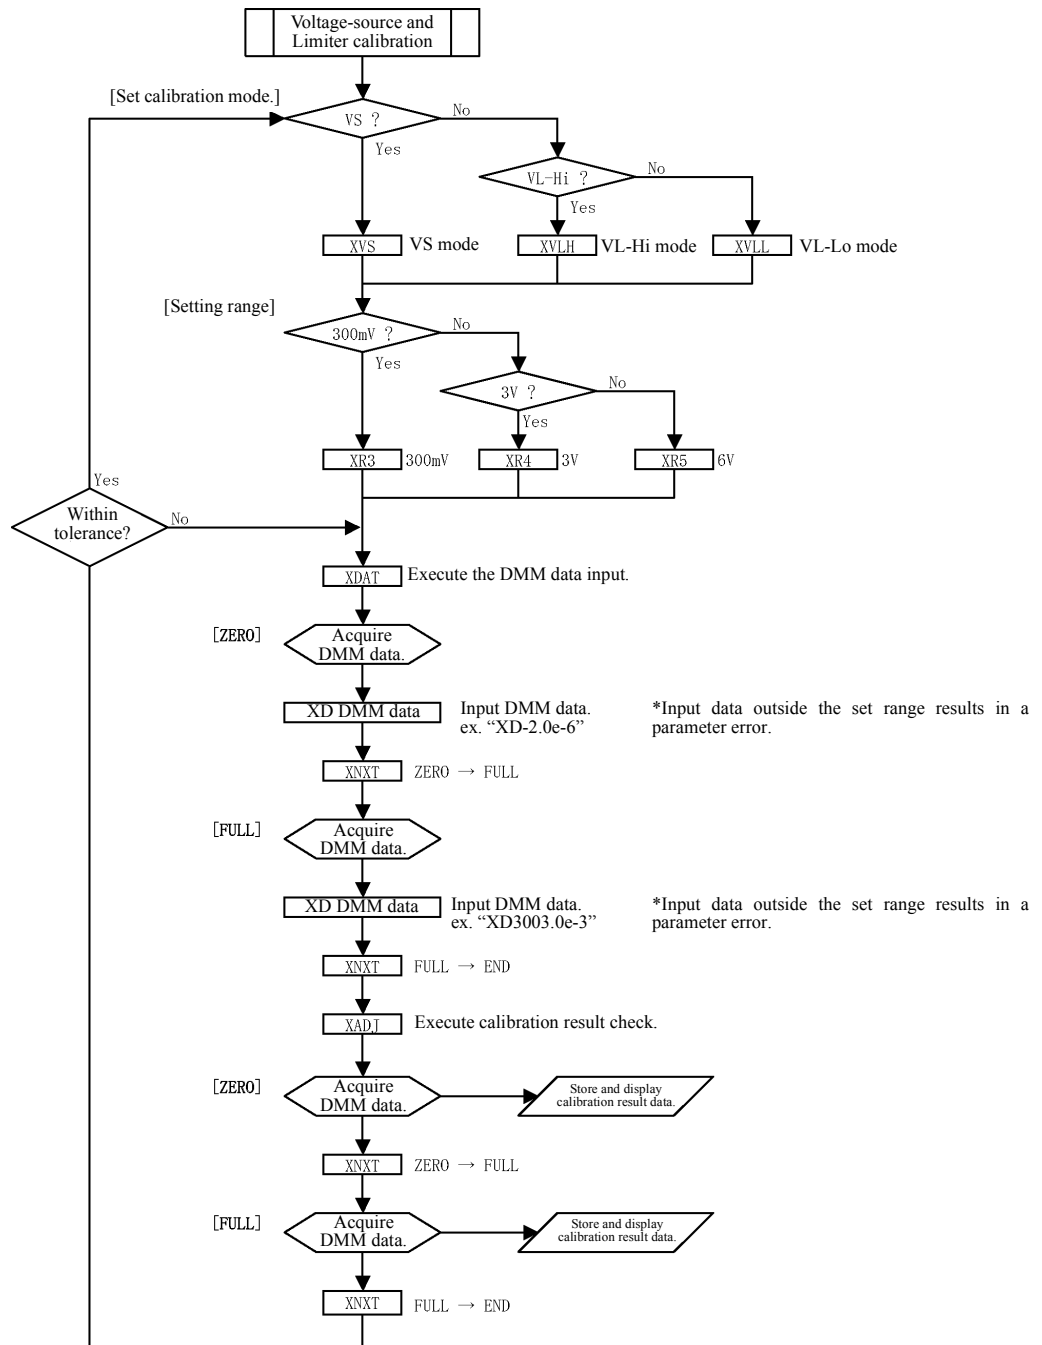
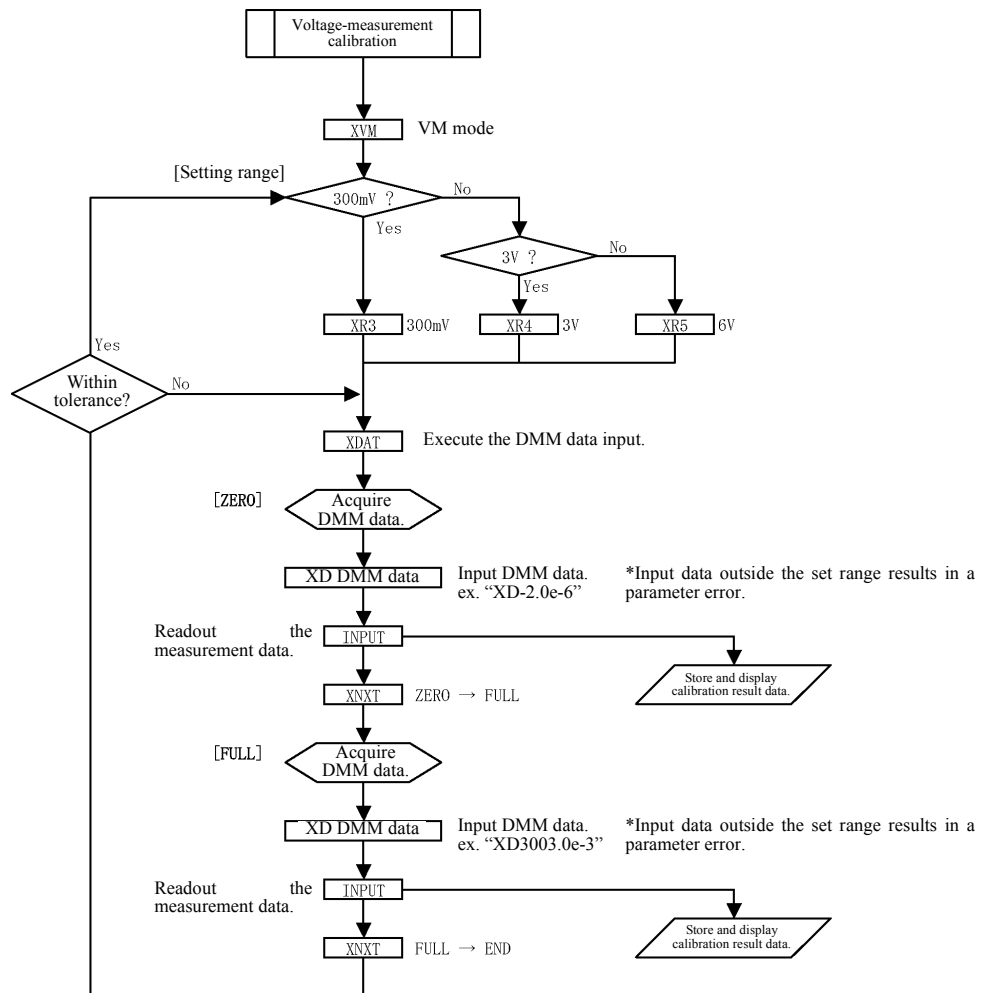

Figure 8-9 6242 Calibration Procedure (2)
Figure 8-10 6242 Calibration Procedure (3)
Figures 8-9 to 8-14 show the calibration procedure. For more information on remote commands, refer to the calibration Section 6.7.3, “Remote Command List.”
5. Conduct calibration according to Figure 8-9, “6242 Calibration Procedure (2)” and Figure 8-10, “6242 Calibration Procedure (3).”